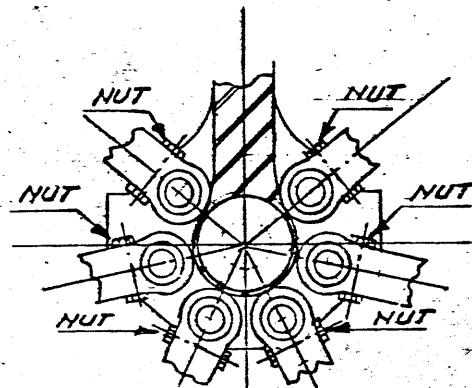
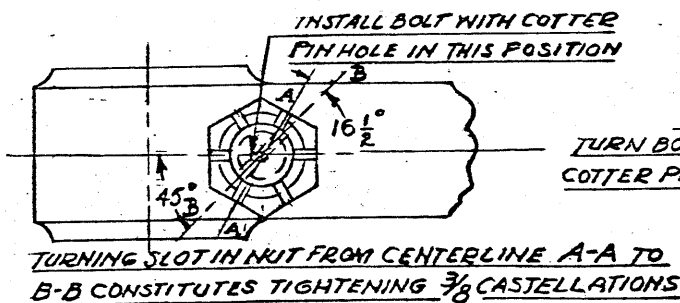

FIG. 2 QUARTER SIZE
FIG. 3 FULL SIZE
2. Install all link rod bolts with the threaded end towards cylinder No. 1 as shown on Figure 2 below and with the cotter pin hole in the position shown in Figure 3, especially when installing during a top overhaul, in order to facilitate the insertion of the cotter pin.
6. Tighten the nut from approximately $\frac{3}{8}$ of a castellation (approximately $16\frac{1}{2}$ degrees) to a maximum of $1\frac{1}{4}$ castellations (approximately 75 degrees) as shown in Figure 3 below. (This method of tightening has been found more satisfactory than using a torque wrench which is influenced by the amount of lubrication and the fit between the nut and bolt).